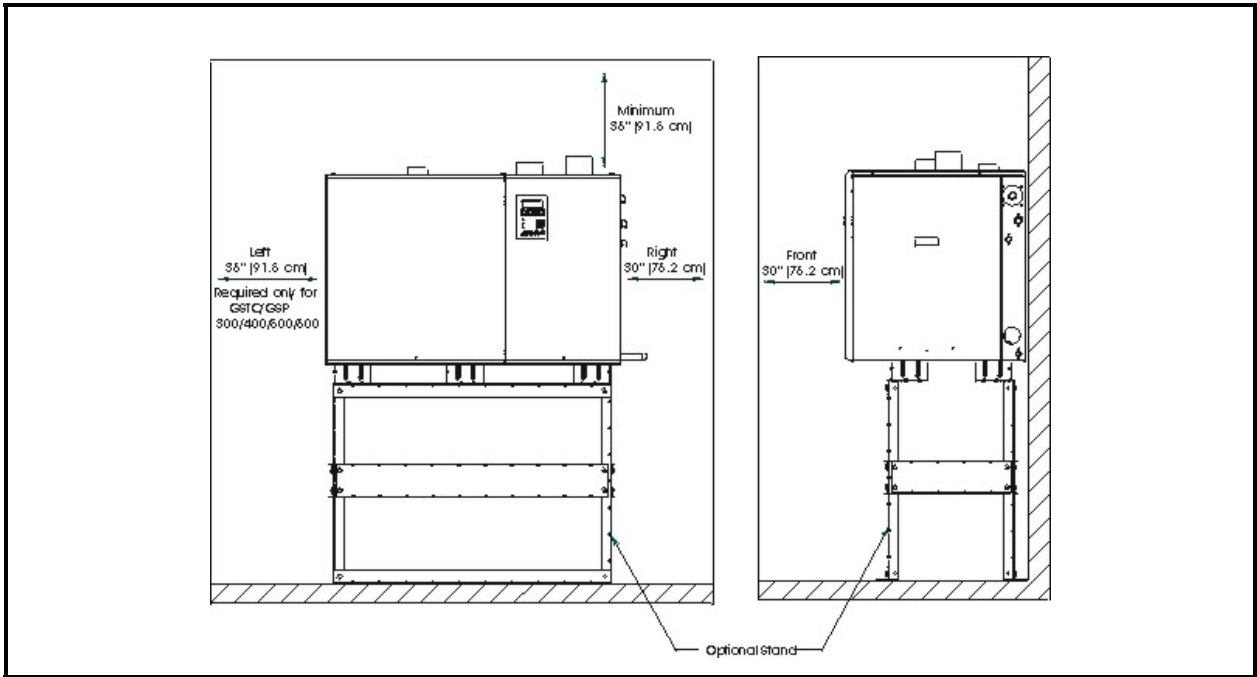

Figure 4. GSTC/GSP Indoor Clearance
- (1) The clearance dimensions shown in Figure 4 and 5 are for reference only and are the minimum requirements for maintenance of the humidifier.
- (2) All units have frontal cleaning port access.
- (3) For GS 100/200, frontal cleaning port access is required only. For GS 300/400, top access is accessible from the front without clearance on the left side. For GS 500/600, left side clearance is required to allow cleaning of the back of the heat exchanger.